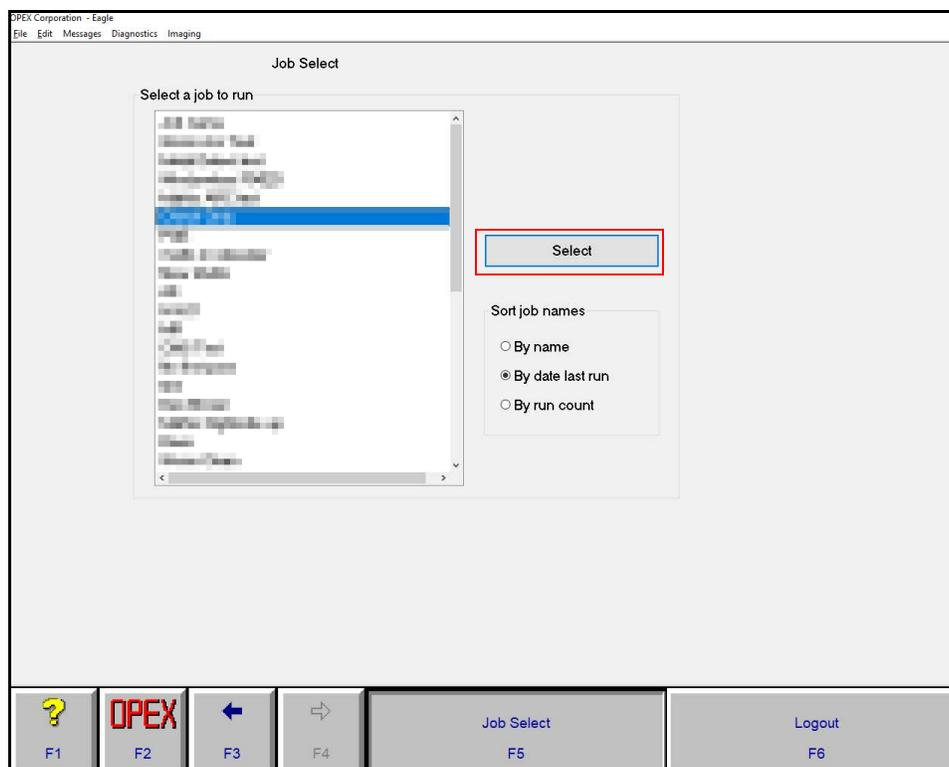

Figure 3-5: Job Select screen
2. Select the job you want to run, and click **Select** (Figure 3-5).